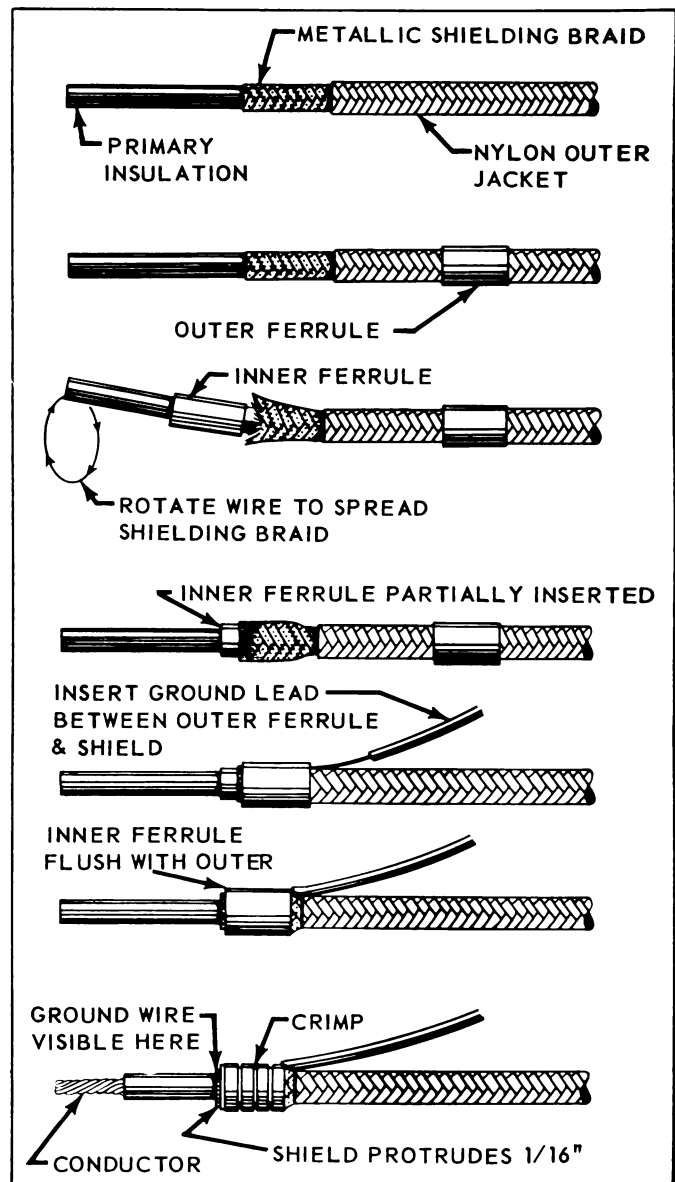

Figure 2-26. Grounding Sheath Connection for Terminating Shielded Wire
2-57. GROUNDING SHEATH CONNECTOR METHOD OF SHIELD TERMINATION. See Figure 2-26. When the metallic braid of shielded cable can be easily flared out, the preferred method of terminating the shield is by crimping it, with or without a ground wire
i. Insert stripped ground wire under outer sleeve (if required) and slide both forward over braid and inner sleeve until only 1/32 to 1/16 inch of inner sleeve and braid protrude. See Figure 2-26. Ground wire may extend from front or back of outer sleeve as required.